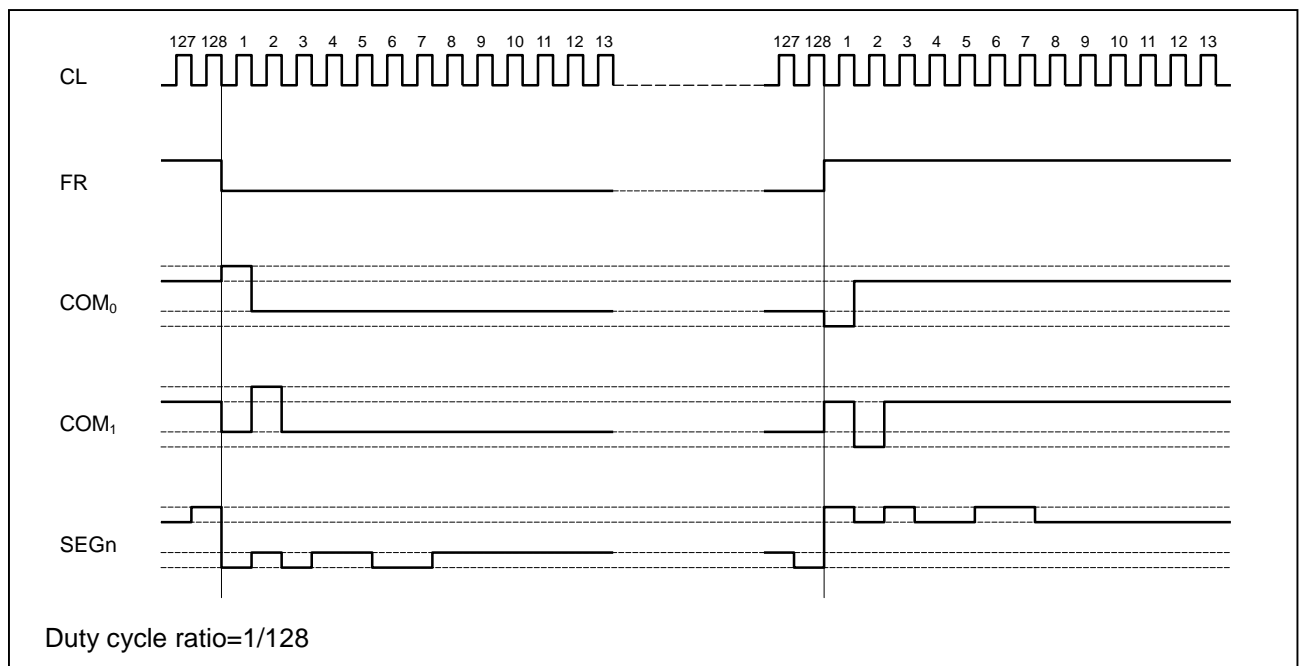
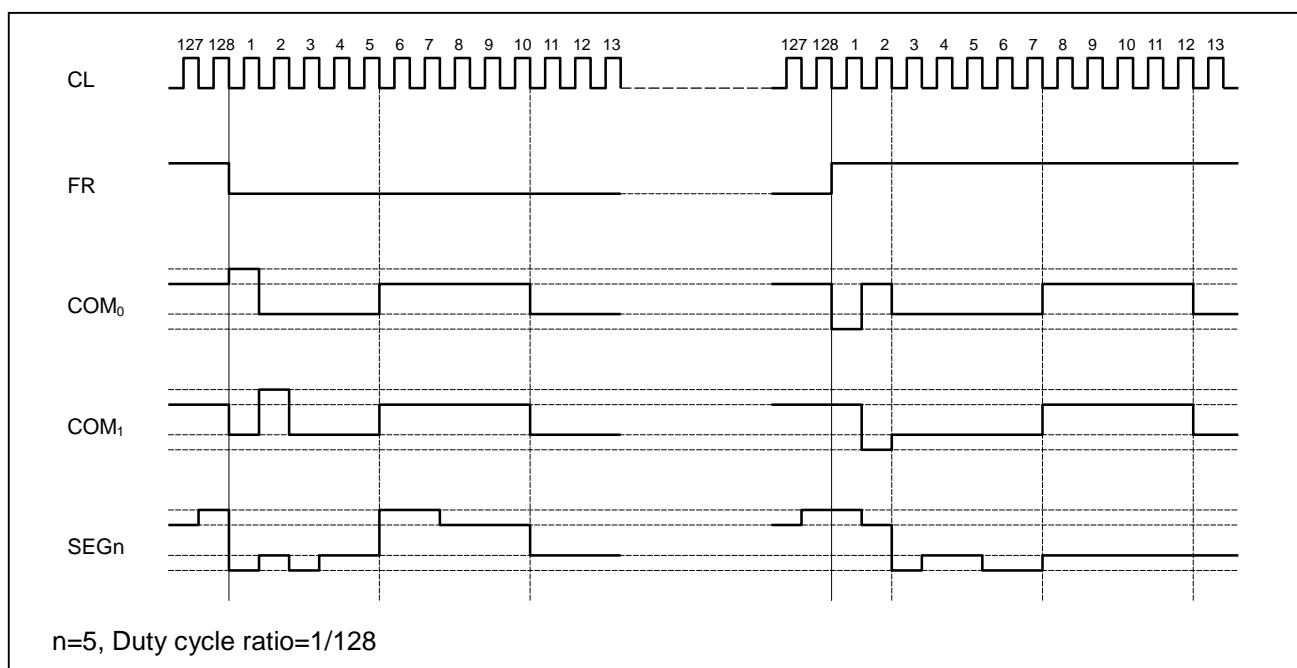

Fig.2-1 LCD driving Waveforms
Fig. 2-2. LCD driving waveforms in the n-line inversion mode
The display timing generator is used to generate the common timing signal (CL) and the internal frame signal (FR). The FR signal adopts the 2-frame AC driving method, in which the FR signal is toggled to alternate the crystal polarization on an LCD panel. It toggles on every frame in the default setting or once every N frames in the N-line inversion mode setting, as illustrated in Fig.2-1 and Fig.2-2.